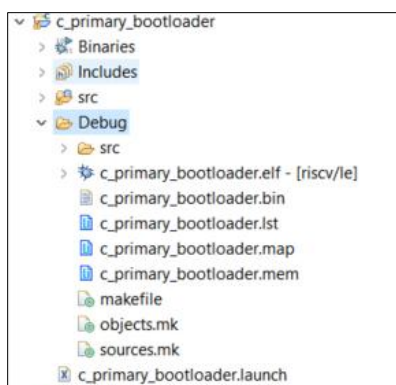

Figure 7.31. Bootloader Binary Created
9. This creates a debug folder as shown in Figure 7.31. The binary created is named **c_primary_bootloader.mem**. This is as a part of System Memory in Propel Builder SoC design. This can be done through ECO editor or directly from the Propel Builder System Memory user interface.